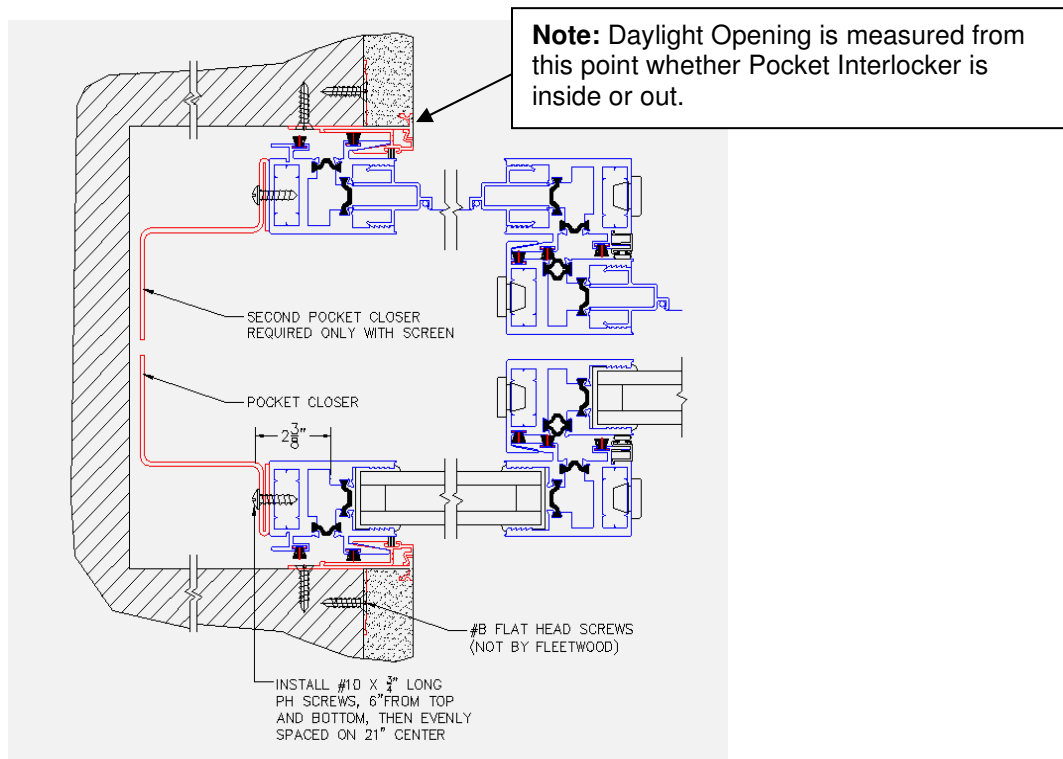

Figure 36:
4. Drill .136 diameter holes (#29 drill bit) thru pocket closer and one wall of interlocker. Holes to be located 6" from top and bottom of pocket closer, then evenly spaced on 18" centers. Assemble pocket closer to back side of interlocker with #10 x 3/4" long pan head screws (Figure 36).